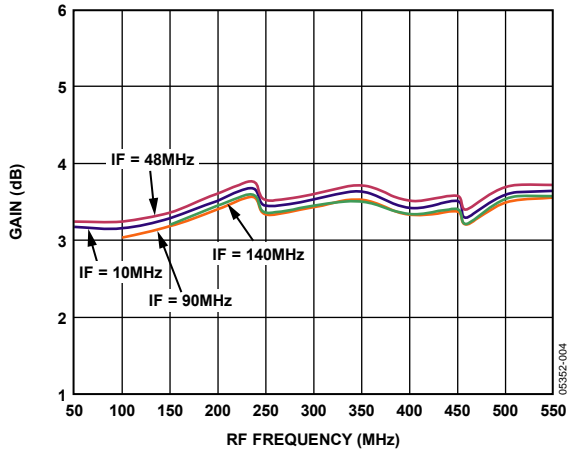

Figure 3. Conversion Gain vs. RF Frequency
The AD8342 is designed to downconvert radio frequencies (RF) to lower intermediate frequencies (IF) using a high- or low-side local oscillator (LO). The LO is injected into the mixer core at a frequency higher or lower than the desired input RF. The frequency difference between the LO and the RF, $f_{LO} - f_{RF}$ (high side) or $f_{RF} - f_{LO}$ (low side), is the intermediate frequency, f_{IF} . In addition to the desired RF signal, an RF image is downconverted to the desired IF frequency. The image frequency is at $f_{LO} + f_{IF}$ when driven with a high-side LO. When using a broadband load, the conversion gain of the AD8342 is nearly constant over the specified RF input band (see Figure 3).